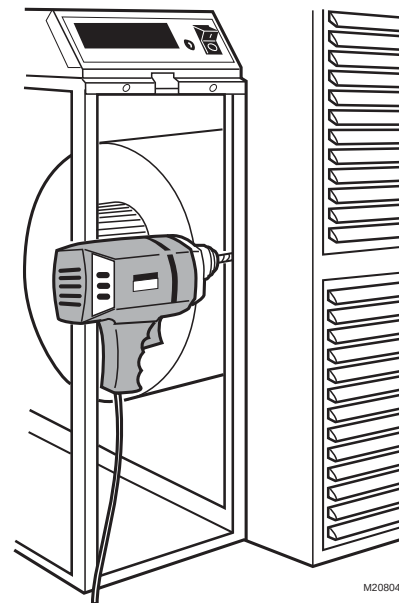

Fig. 5. Fasten cabinet to furnace.
- ❑ Attach the cabinet securely to the furnace. The unit can be attached directly, as shown, or a starting collar can first be fitted in the furnace opening. Either drill holes and fasten with sheet metal screws or rivets, or use slip joints. See Fig. 5.